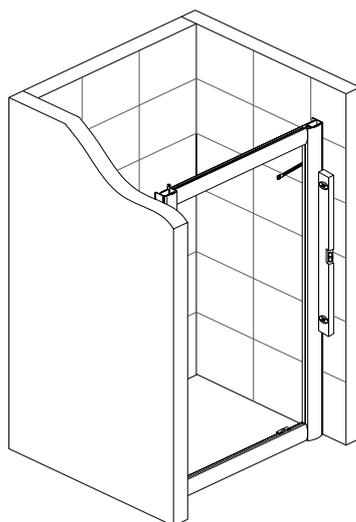

Figure 3
3. Place the frame between the walls, use the spirit level to ensure it is vertical against the wall, and then mark the holes on both walls with a pencil as shown in figure 3.